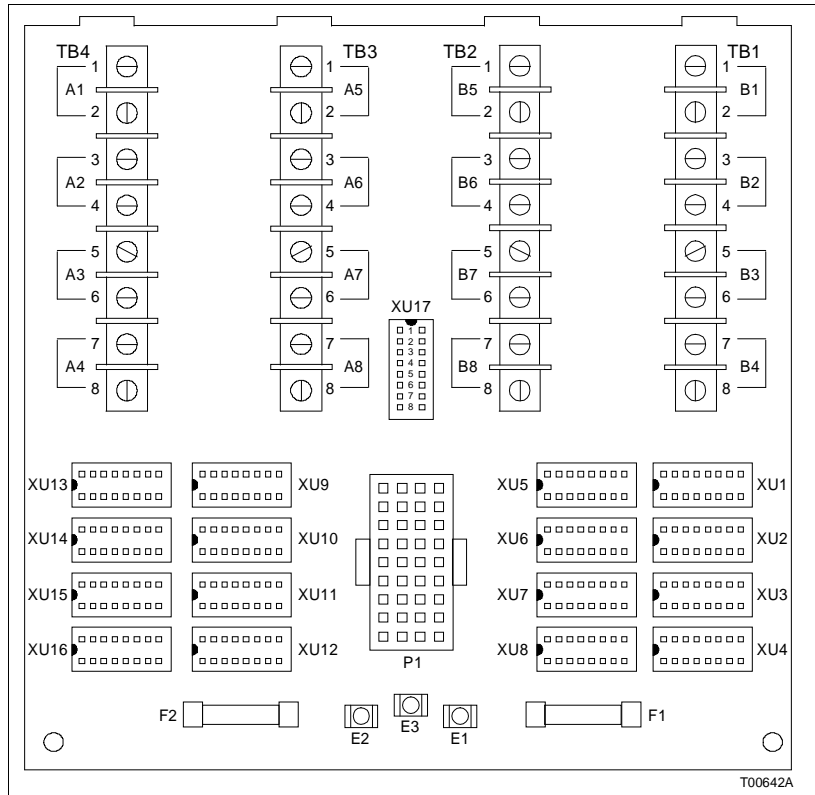
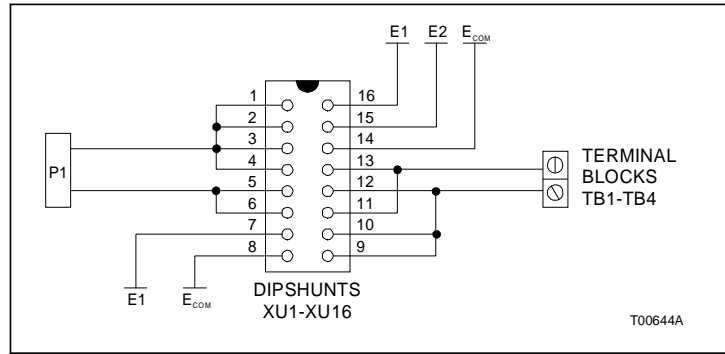
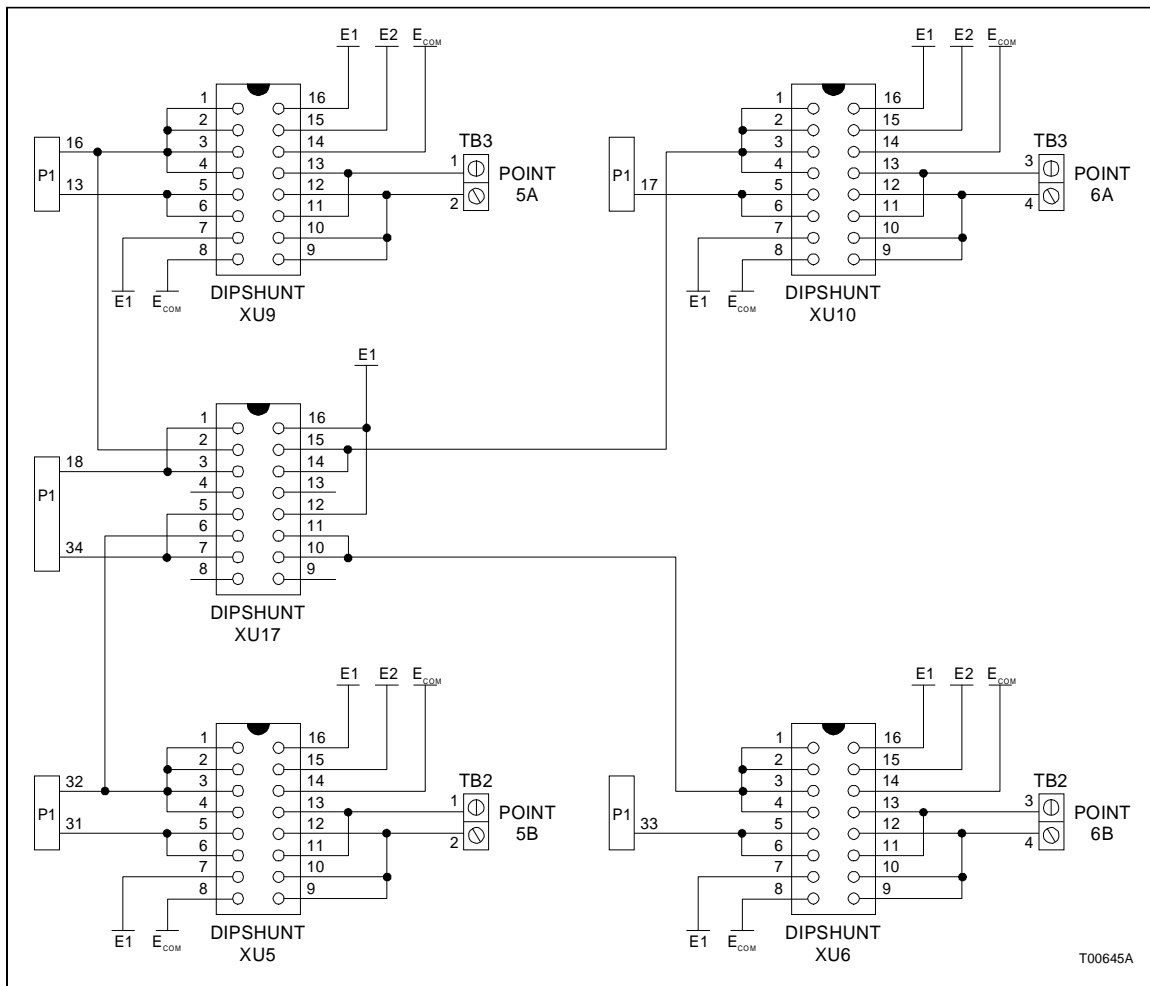

Figure 2-1. TDI Component Locations
Figure 2-3. Point Configuration Socket Circuit Diagram
Figure 2-4. Termination Unit Configuration Socket Circuit Diagram
Figure 2-1 shows the TDI and the location of the dipshunt sockets (XU1 to XU17), terminal blocks (TB1 to TB4), cable connector (P1), system power connectors (E1, E2 and E3) and fuses (F1 and F2).
configure TDI signal routing for some applications. Figure 2-1 shows the location of these sockets on the TDI. Figure 2-3 is a circuit diagram of a point configuration socket. Figure 2-4 is a circuit diagram of the termination unit configuration socket.
On-board fuses provide protection for the system power supplies and field devices. Figure 2-1 shows the location of the fuses on the TDI. Fuse 1 (F1) is for the E1 power supply; fuse 2 (F2) is for the E2 power supply.
2. Insert the socket connector end of the cable in the P1 connector of the TDI. Figure 2-1 shows the location of P1 on the TDI circuit board.
The polarity and use of each terminal depends on the configuration of the TDI. Refer to Figure 2-1 for general I/O point terminal block assignments. Refer to the appendices for specific application I/O point terminal block assignments and point wiring polarity. A 12 AWG to 22 AWG wire should be used for field wiring.
provide connection points for system power wiring and ground. See Figure 2-1 for the location of these terminals.
Refer to Figure 2-3 for connections between P1 pins and point configuration sockets XU1 through XU4, XU7, XU8 and XU11 through XU16. For these sockets, all even numbered P1 pins in Table 2-1 connect to pins 1, 2, 3 and 4 of the sockets; all odd numbered P1 pins connect to pins 5 and 6 of the sockets.
Refer to Figure 2-4 for connection between P1 pins, the termination unit configuration socket and point configuration sockets XU5, XU6, XU9 and XU10.